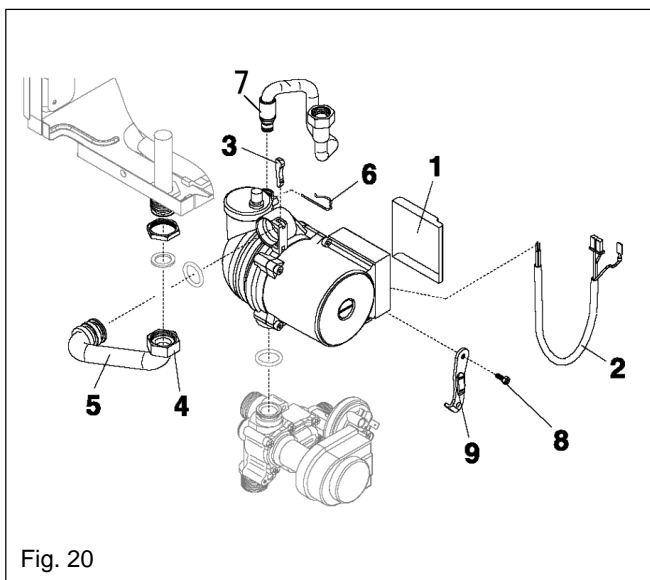

Fig. 20
### 6.5 PUMP ASSEMBLY (see fig. 20)
**6.7 AUTOMATIC AIR RELEASE VALVE (see fig. 20) (AAV)**